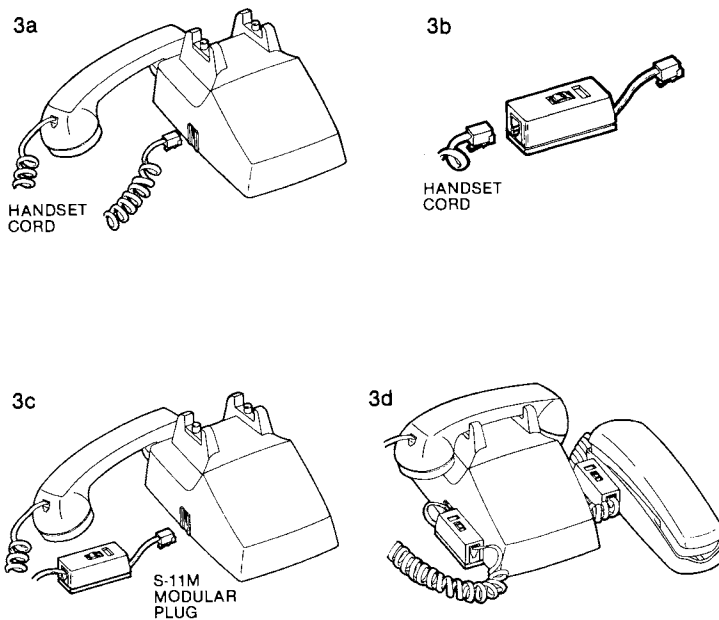

Fig. 3a-d — S-11M Connections.
3.01 Unplug the handset cord from the modular jack on the telephone (see Figure 3a).